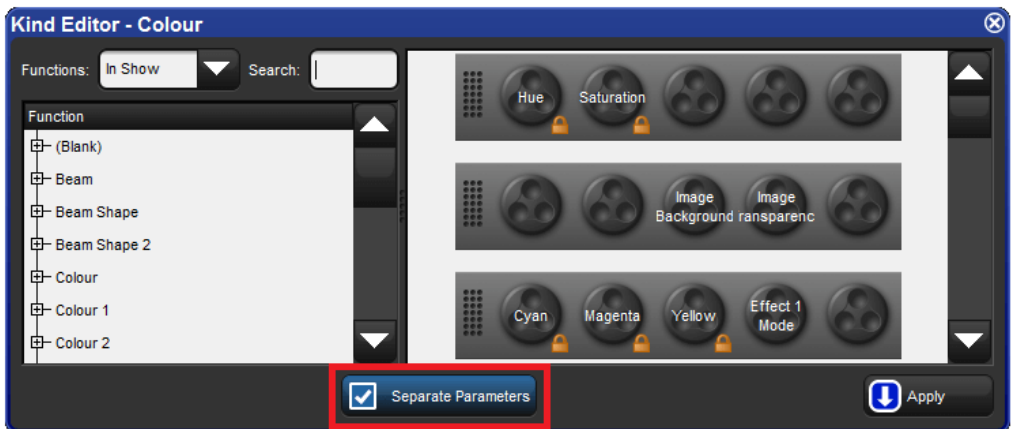

Figure 6.16. A Kind Editor for the Colour kind with separate parameters turned on.
2. Toggle separating parameters on and off by pressing the parameter type buttons; see *Figure 6.16*, “A Kind Editor for the Colour kind with separate parameters turned on.”.